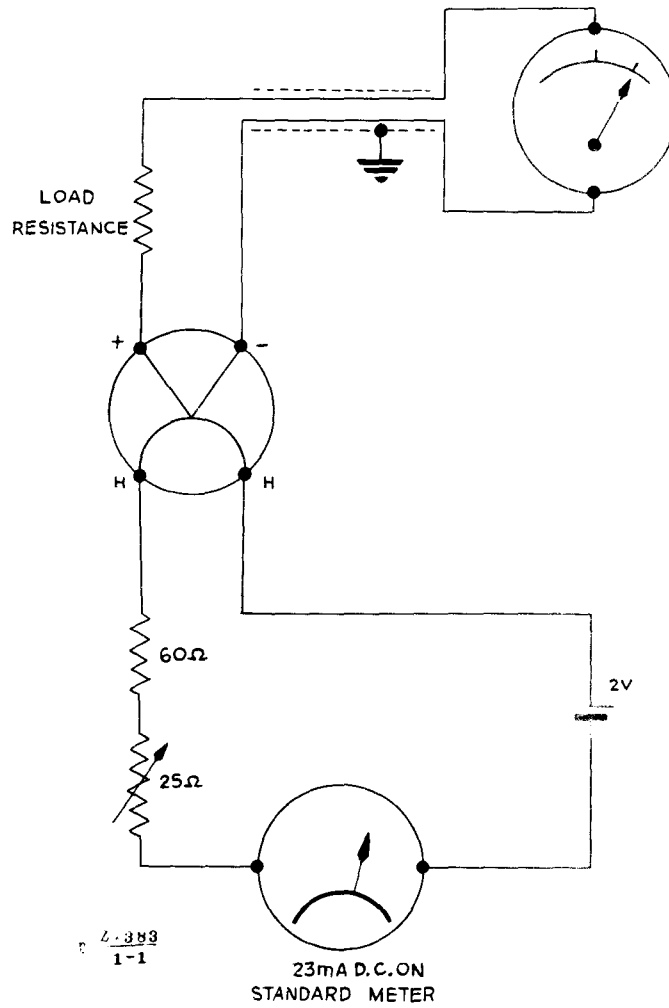

Fig. 1 - Adjustment of thermocouple
8. To adjust a replacement couple, refer to Fig. 1 and proceed as follows:-